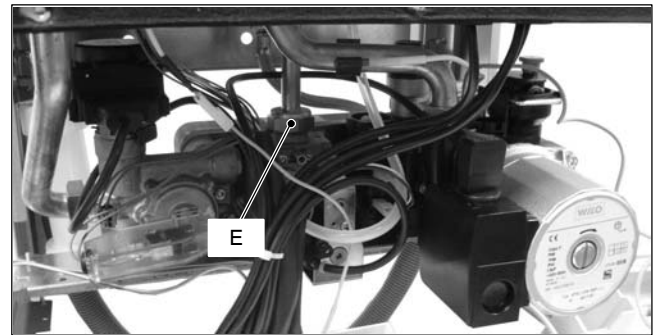

Fig. 17.4
- 5 Unscrew the gas connector *E* (Fig. 17.4)